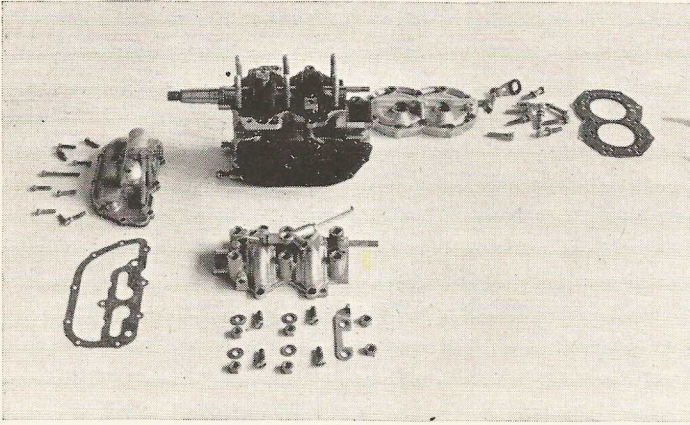

Fig. 40
Place a drop or two of oil on each of the three bearings in crankcase section. Attach as shown Fig. 40. Assem-
4. Remove water pump housing (held in position by three screws) Fig. 40 and 44.